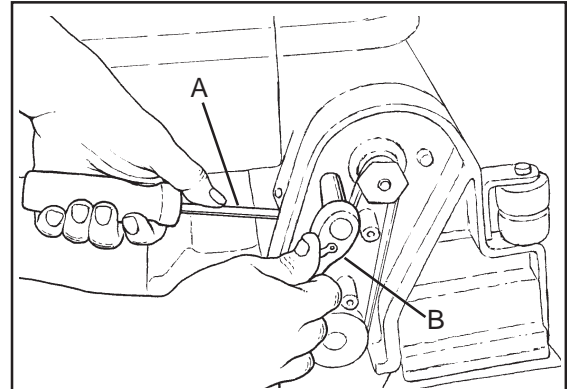

Figure 36
- c. Use a small pry bar or large screwdriver to pry the motor upward to achieve correct belt tension. Pry on the motor close to where the motor contacts the brush head casting (See Figure 36, A).
- d. Hold tension and tighten 2 screws (See Figure 36, B).